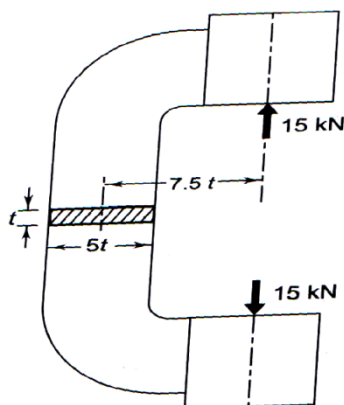

Fig. 1 ,Q. 3 (b)
- (b)** A C-frame subjected to a force of 15 KN is shown in Fig.1. It is made of grey cast iron FG 300 and factor of safety is 2.5. Determine the dimensions of cross- **07**